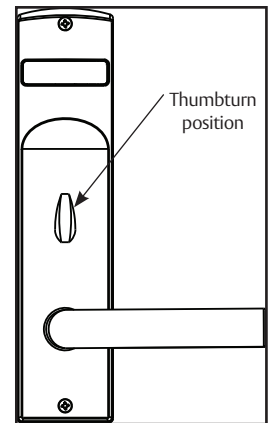

Figure 10
**Important:** For thumbturn indicators, make sure thumbturn is positioned in the 12 o'clock direction as shown. (Figure 10)